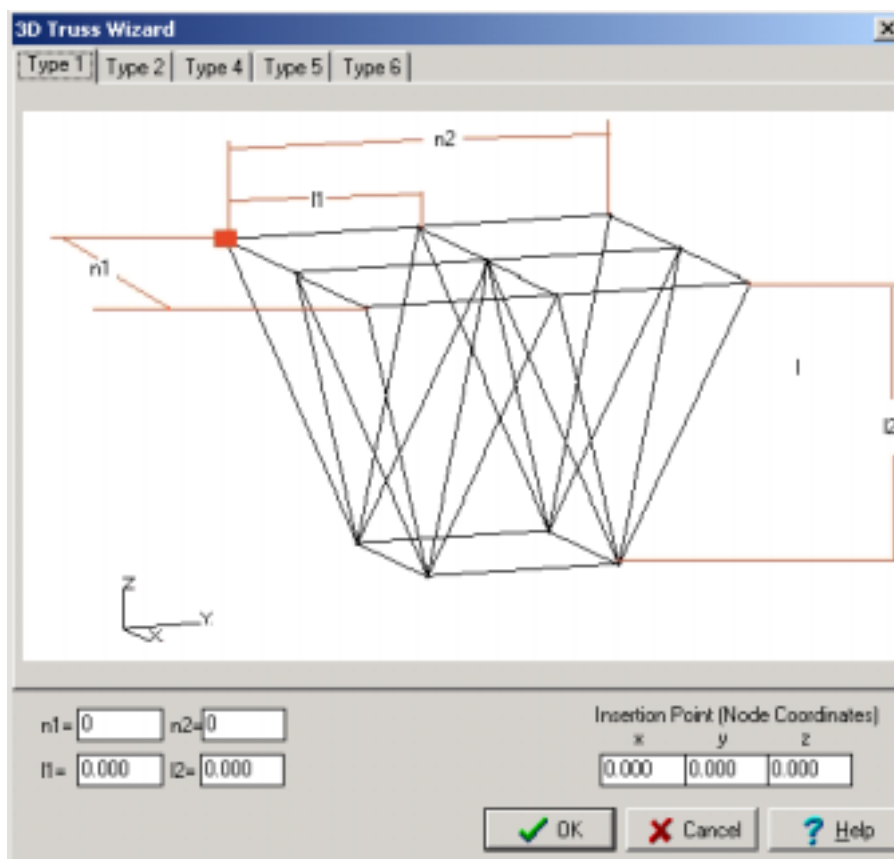

Figure 70 3D TRUSSES' Wizard TYPE 1.
1. Choose the command Edit > 3D TRUSS or the appropriate icon . The dialogue box shown in figure 70 will appear.
This type of 3D truss is shown in figure 70.
1. While the dialogue box "3D TRUSS WIZARD" is open, click on the TYPE 1 label. The table shown in figure 70 will appear.